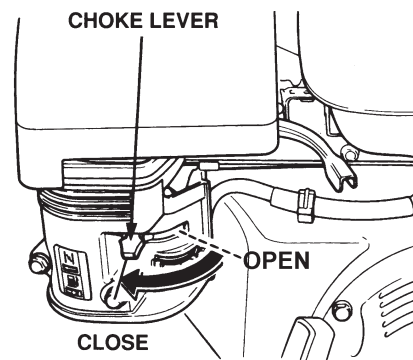

Figure 10. Engine Choke Lever
3. Place the **choke lever** (Figure 10) in the "**CLOSED**" position if starting a **cold engine**.